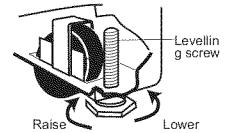

Figure 1.
- If your refrigerator has levelling screws only, follow the steps shown in figure 1.
- To raise or lower the front of the refrigerator, turn each screw in a clockwise or counterclockwise direction (figure 1 or 2).